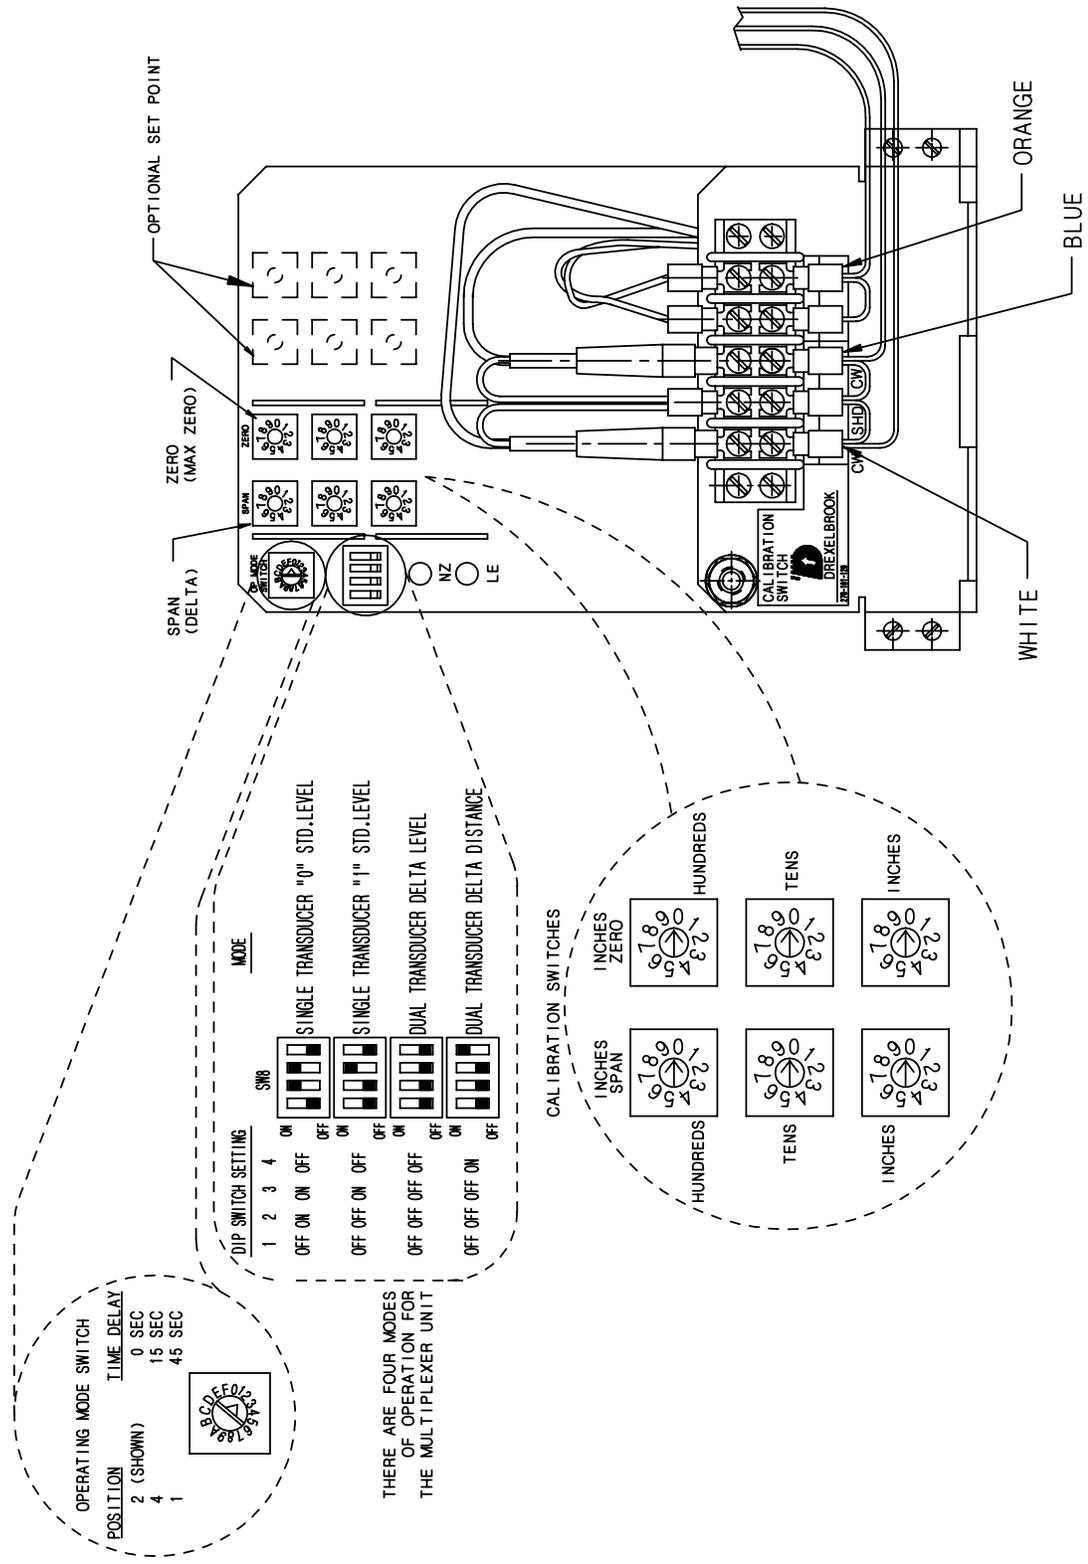

Figure 3-1
3.1 Indicators & Controls **Refer to *Figure 3-1* for the location of indicators and controls.**
Figure 3-1 details the switch positions and the associated time delay.
- Set the four switches on SW8 as follows (refer to *Figure 3-1*):
- Refer to *Figure 3-1* for location of relay switches (ALM1 and ALM2).